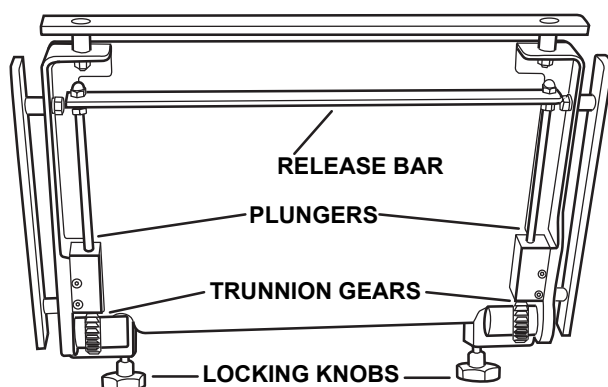

Figure 31. Head Section Controls
1. Ensure both head section locking knobs are installed, they have full range of motion, and their threads are not stripped (Figure 31).